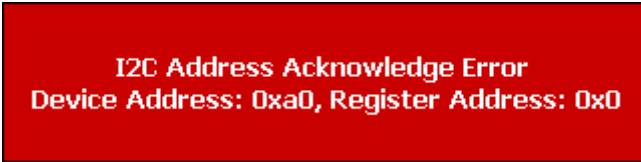

Figure 7. Warning Message That Appears After Loading ADV7280-M Board
**Note:** A warning similar to that shown in Figure 7 will appear. This is expected as the I2C slave address of the CSI\_Top Map has not yet been programmed. This warning will disappear after any script is run (see step 7).